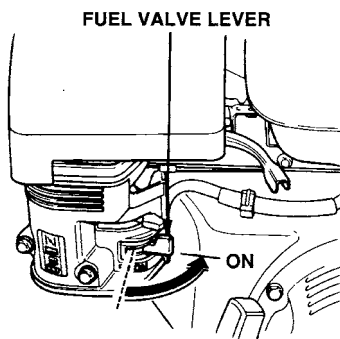

Figure 9. Fuel Shut-Off Lever
1. Move the fuel shut-off lever (Figure 9) to the ON position.